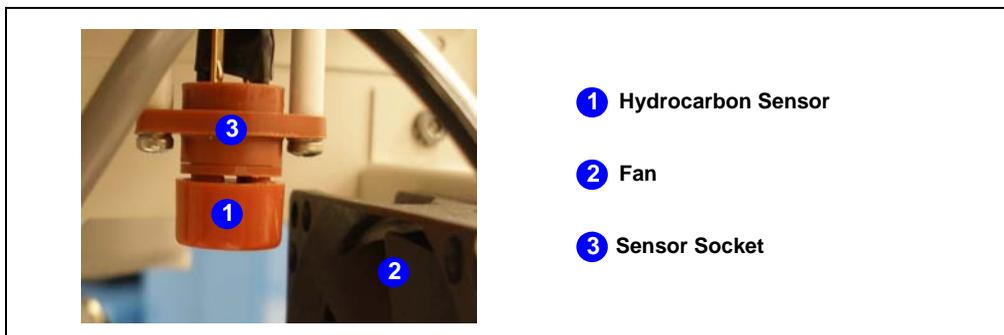

Figure 5-29. Hydrocarbon Sensor
4. The hydrocarbon sensor (see Figure 5-29, ①) is installed in the upper-right corner, behind the fan (②).